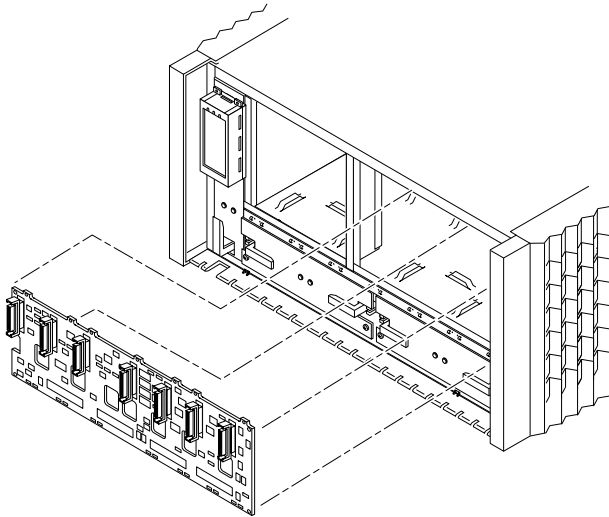

FIGURE 7-17 Removing a Disk Drive Backplane
8. Remove and replace the disk drive backplane (FIGURE 7-17).